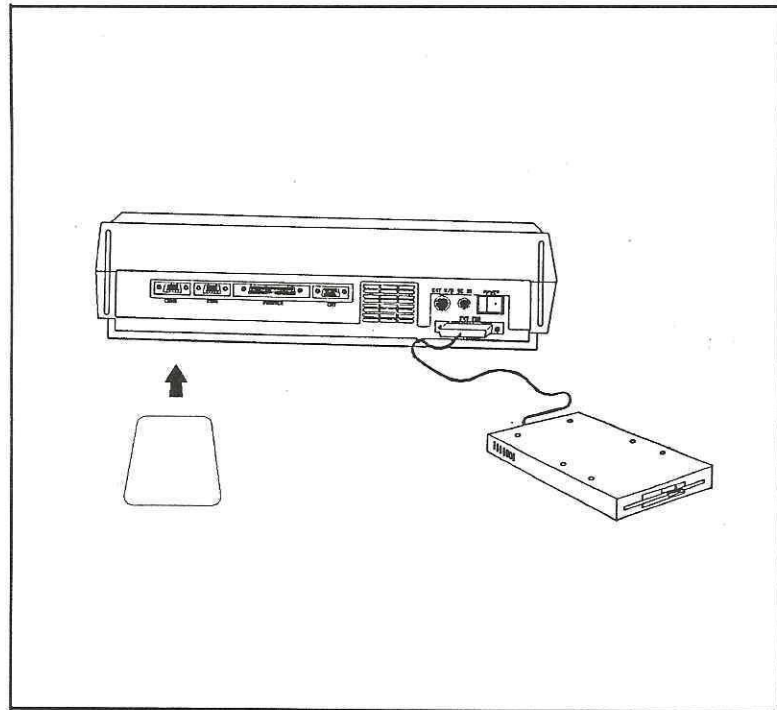

Figure 3-4. Installing an Expansion Board
4. Insert the screw (Figure 3-4) making sure that the bracket screw slot is pushed all the way against the screw before tightening.